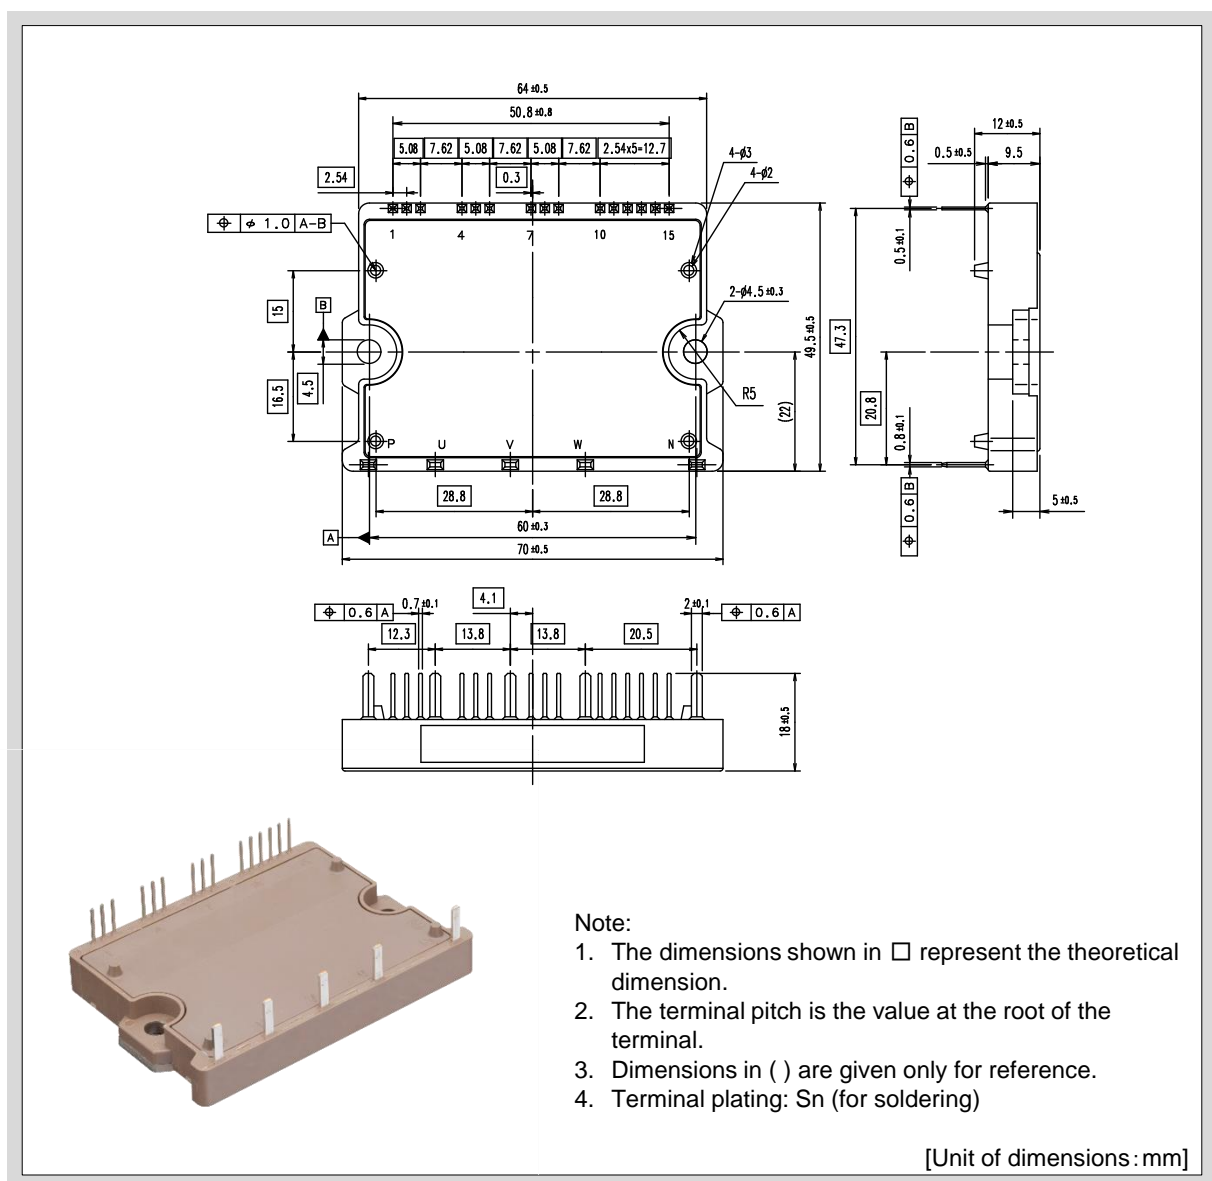

Fig.1-3 Package outline drawing(P629)
- The package outline drawing is shown in Figure 1-3.